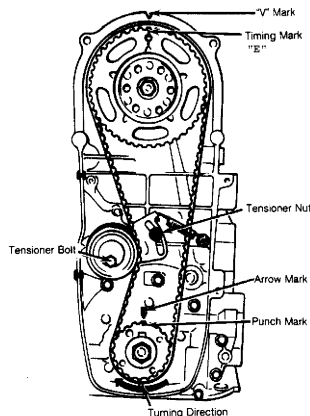

Fig. 6: Aligning Timing Belt & Tensioner (Typical SOHC)
1) Loosen all valve adjusting screws fully before installing timing belt. Allow camshaft to rotate freely during belt tension adjustment. Align timing mark on camshaft sprocket with "V" mark on timing belt inner cover. See Fig. 6.
2) On all models, install camshaft sprocket. Ensure camshaft sprocket marks align with timing marks on cylinder head. See Figs. 6 and 7. To complete installation, reverse removal procedure.